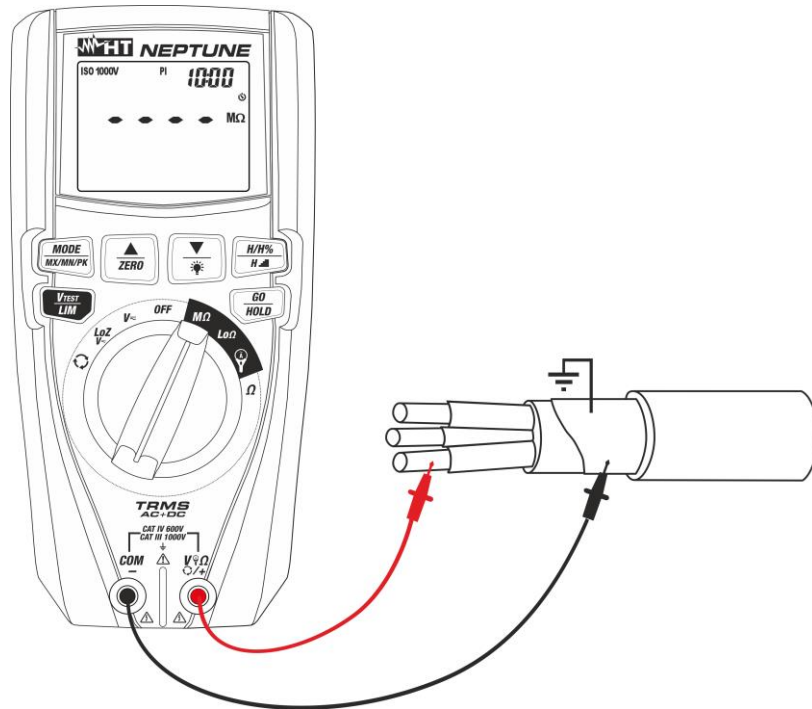

Fig. 22: Use of the instrument for insulation resistance measurement in PI mode
6. Insert the red lead into input terminal **VΩΩ+/+** and the black lead into input terminal **COM/-** and possible alligator clips, and connect the instrument to the appliance to be tested (see Fig. 22).